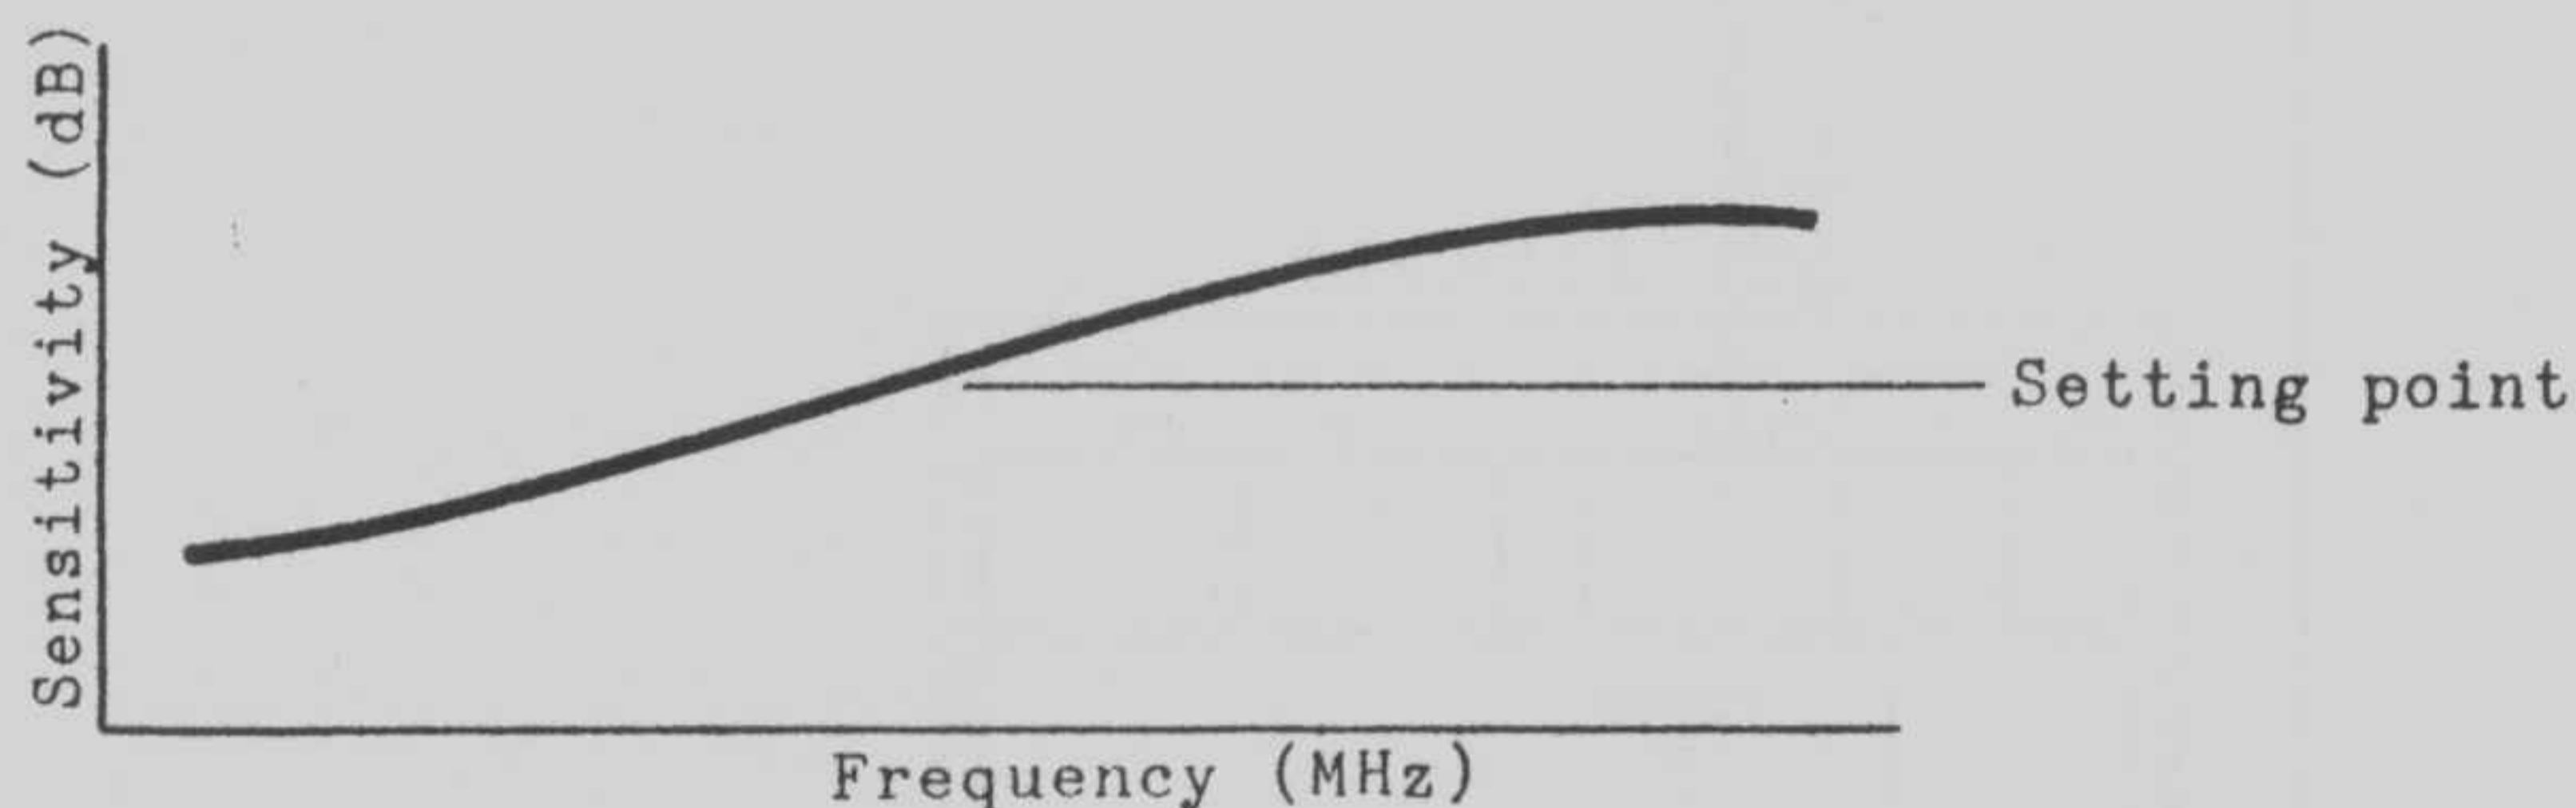

Figure-12
- Measure the sensitivity for several points of the VHF dial, then plot the frequency response to graph paper as shown in Figure-12.